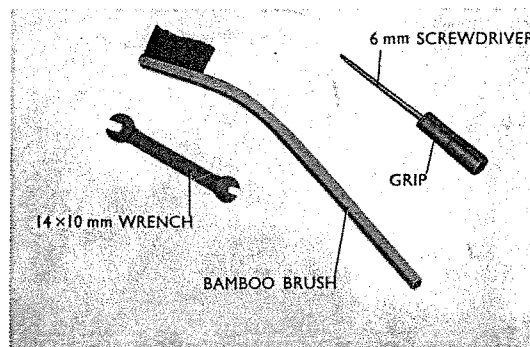

Fig. 6.23 Tools required for cleaning the air cleaner
a. Tools required for cleaning the air cleaner. (Refer to Fig. 6.23)